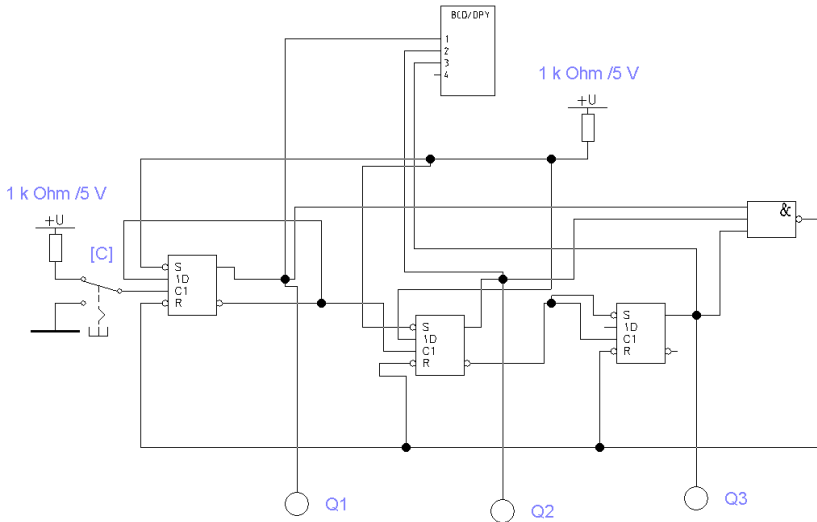

Figure 10.4 – A counter with a variable conversion factor
8. Draw the schema shown in fig. 10.4 (file 14_08.ca4 in the examples)
10. Upgrade the circuit (fig. 10.4) in accordance with the individual task of the meter parameters